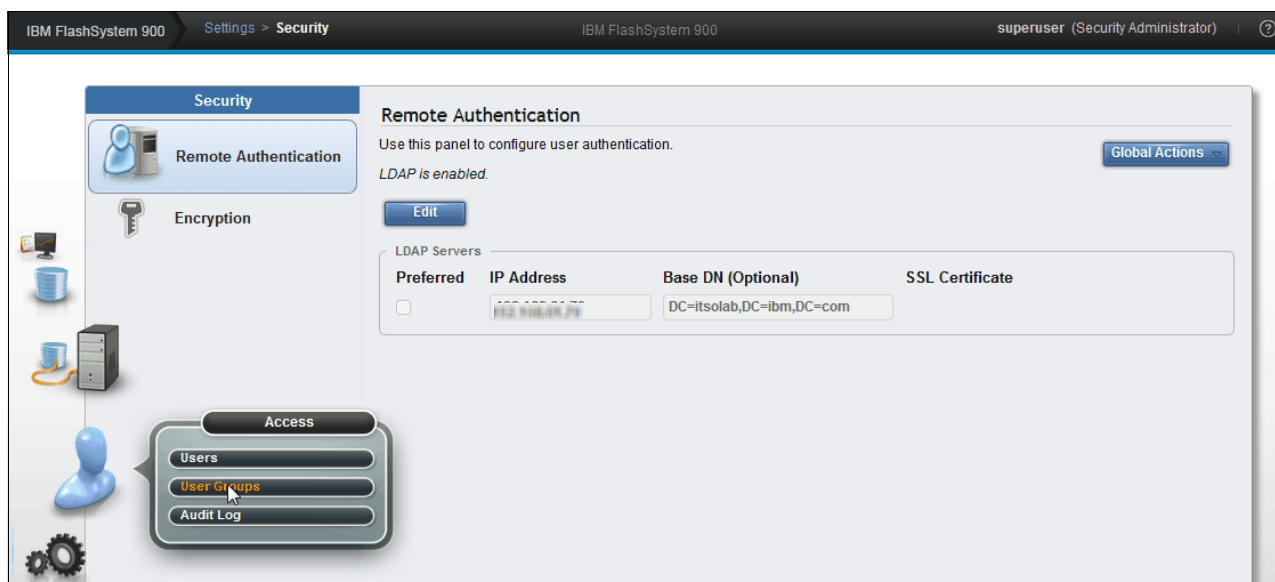

Figure 7-22 Navigate to User Groups
1. Click **Access** → **User Groups** (Figure 7-22).